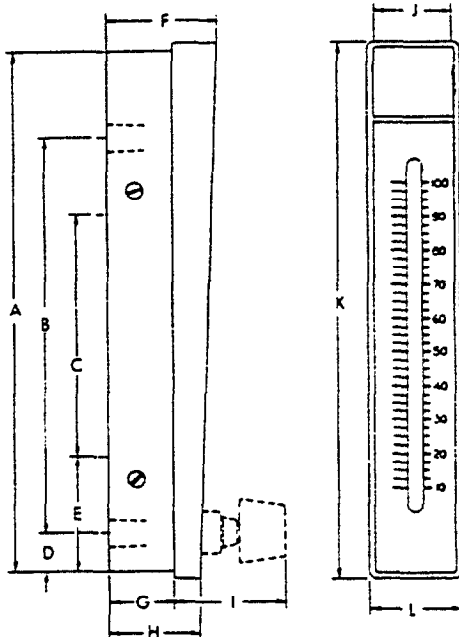

Figure 1
COIL REPLACEMENT (Refer to Figures 1, 2 and 3)
Depressurize valve and turn off electrical power supply. For A-C Construction, refer to Figures 1 and 2. For D-C Construction, refer to Figure 3. Proceed in the following manner:
3. Replace valve bonnet and bonnet screws. Torque bonnet screws (4) in a crisscross manner to 110 ± 10 inch pounds.
4. For A-C Construction, the diaphragm spring, core assembly and core spring must be installed prior to assembly of bonnet as this is the solenoid base sub-assembly. Be sure diaphragm spring is installed properly. Closed turns of spring to seat on diaphragm assembly. For valves with a manual operator (see Figure 1), the small end of diaphragm spring seats on diaphragm assembly.
Dwyer Rate-Master[®] Series RM Flowmeters are furnished in three models (see Figure 1) each available in a broad choice of flow ranges with direct reading scales for air, gas or water. Installation, operation and maintenance are very simple and only a few common sense precautions must be observed to assure long, trouble-free service.
BEZEL OR THROUGH PANEL MOUNTING: Make the panel cutout using the appropriate dimensions from Figure 1. Flowmeter must fit into the panel freely without force or squeeze.
SURFACE MOUNTING: Drill appropriate holes in panel using the dimensions shown in Figure 1. Hold the flowmeter in position in front of the panel and install the clamp bolts through the panel from the rear. (The mounting clamps may be used as washers if desired by installing them backwards or straightening them out.) Pipe up inlet and discharge following the directions in previous sections.
SURFACE MOUNTING ON PIPING ONLY: An alternate method of surface mounting omitting the clamp bolts and supporting the Rate-Master Flowmeter on the connecting piping only is possible. For this method extra long or straight pipe threads should be used so that nuts may be run onto the pipe and later tightened against the back of the panel to retain the unit in proper position. Use the appropriate hole layout information from Figure 1, but omit the small holes.